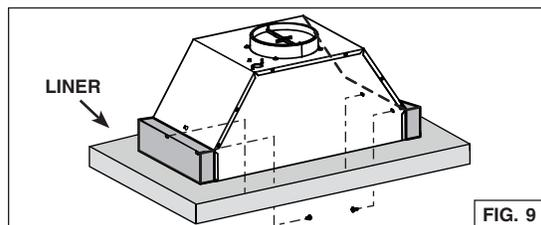
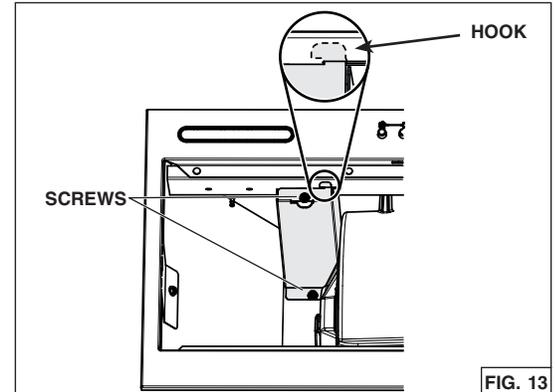

FIG. 9
FIG. 13
7. For installation in a cabinet without bottom, insert the power module in the liner. Install 2 wood blocks having 2½" minimum height x 10¼" long (not included), on top of the liner and on left and right side of the power module. Secure the power module to the wood blocks using (4) wood screws included in parts bag (2 screws per side) (Fig. 9).
2. Reinstall wiring cover and attach it to the power module using its retaining screws (Fig. 9). Ensure its hook (shown in dotted line in inset) is well inserted in the power module wall (Fig. 13).